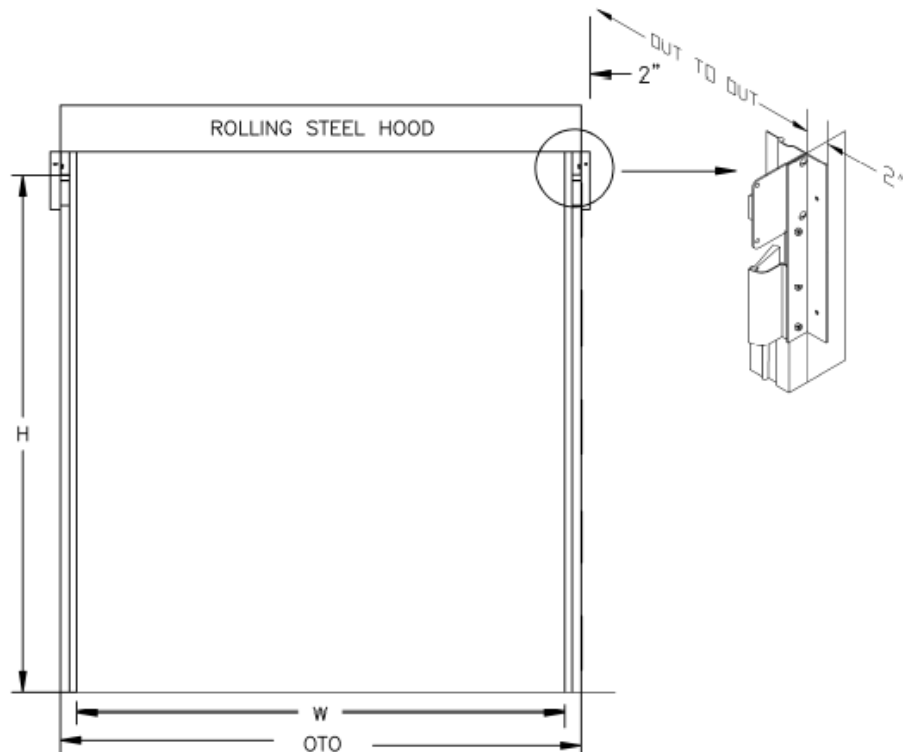

FIGURE 1
1. Your E-track door is manufactured so the OTO equals the width of the door, the OTO should be that the back of the Gateway track is flush with the back of the existing track. 14 gauge galvanized flat stock steel projection is going to be flat against the back of the rolling steel door (**See Fig. 1**).